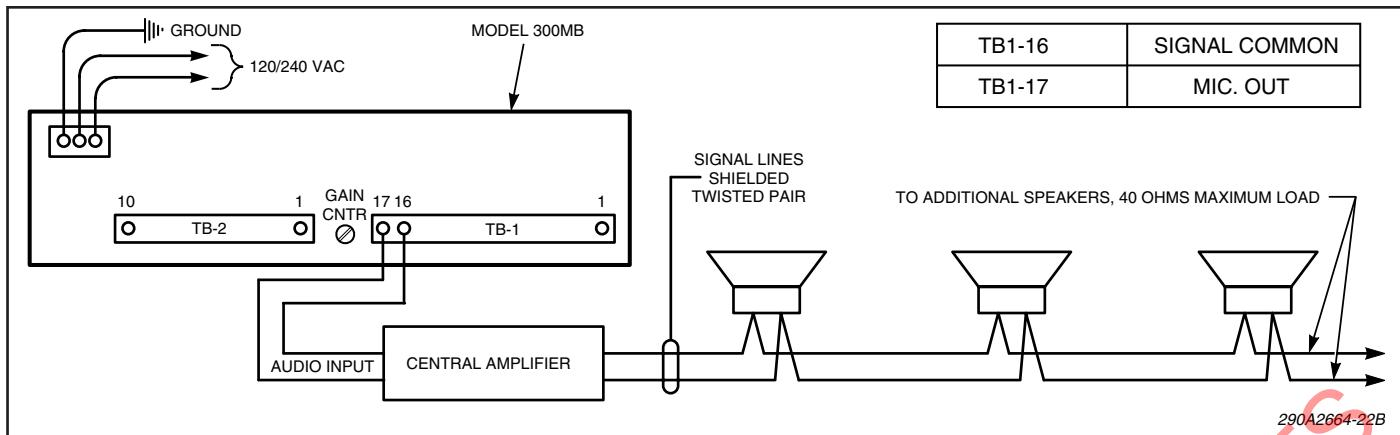

Figure 3-8. Model 300MB with Central Amplifier Connections.
D. 300MB Interfacing with a Central Amplified System (see figure 3-8).